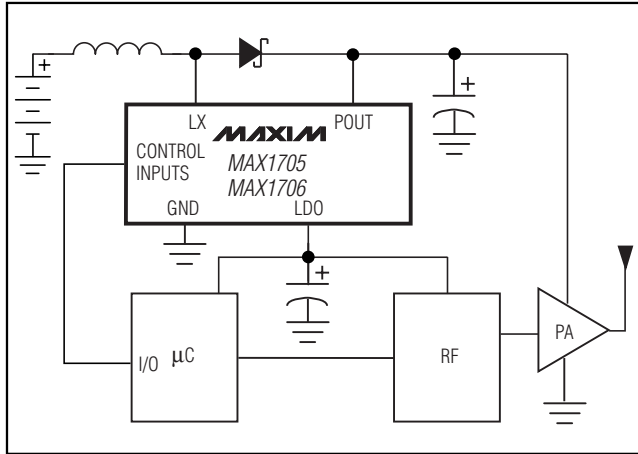

Figure 10. Typical Phone Application
The MAX1705/MAX1706 are ideal for use in digital cordless and PCS phones. The power amplifier (PA) is connected directly to the step-up converter output for maximum voltage swing (Figure 10). The internal linear regulator is used for postregulation to generate low-noise power for DSP, control, and RF circuitry. Typically, RF phones spend most of their life in standby mode and short periods in transmit/receive mode. During standby, maximize battery life by setting CLK/SEL = GND and TRACK = OUT; this places the IC in PFM and track modes (for lowest quiescent power consumption). In transmit/receive mode, set TRACK = GND and CLK/SEL = OUT to increase the PA supply voltage and initiate high-power, low-noise PWM operation. Table 5 lists the typical available output current when operating with one or more NiCd/NiMH cells or one Li-Ion cell.